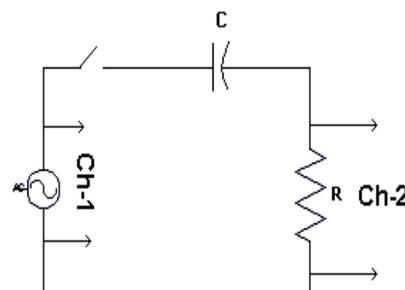

Fig.2
9. Now construct the circuit as shown in fig.2. Connect channel 1 of the oscilloscope across function generator and channel 2 of the oscilloscope across R.